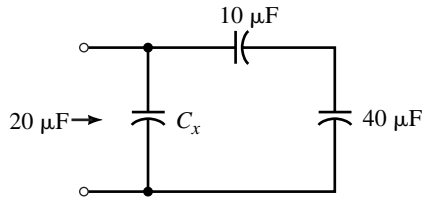

FIGURE 10–34
30. For Figure 10–34, determine C_x .
31. For Figure 10–35, determine C_3 and C_4 .